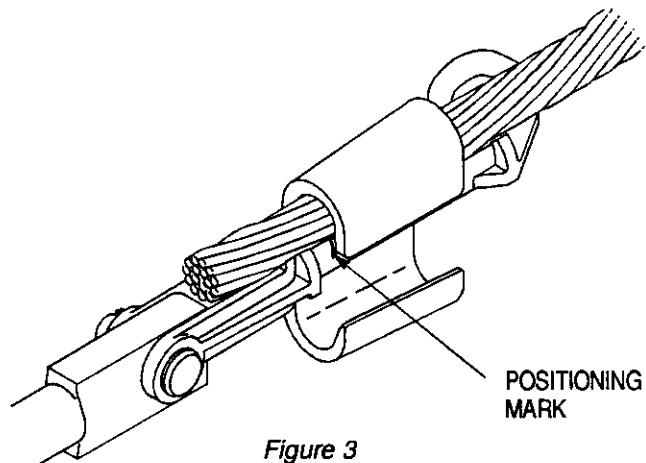

Figure 3
4. Place the C-component over the conductor in the deadend body groove and position the C-component between the pulling eye and the positioning mark on the side of the body. The wide end of the C-component must be adjacent to the pulling eye. See Figure 3.